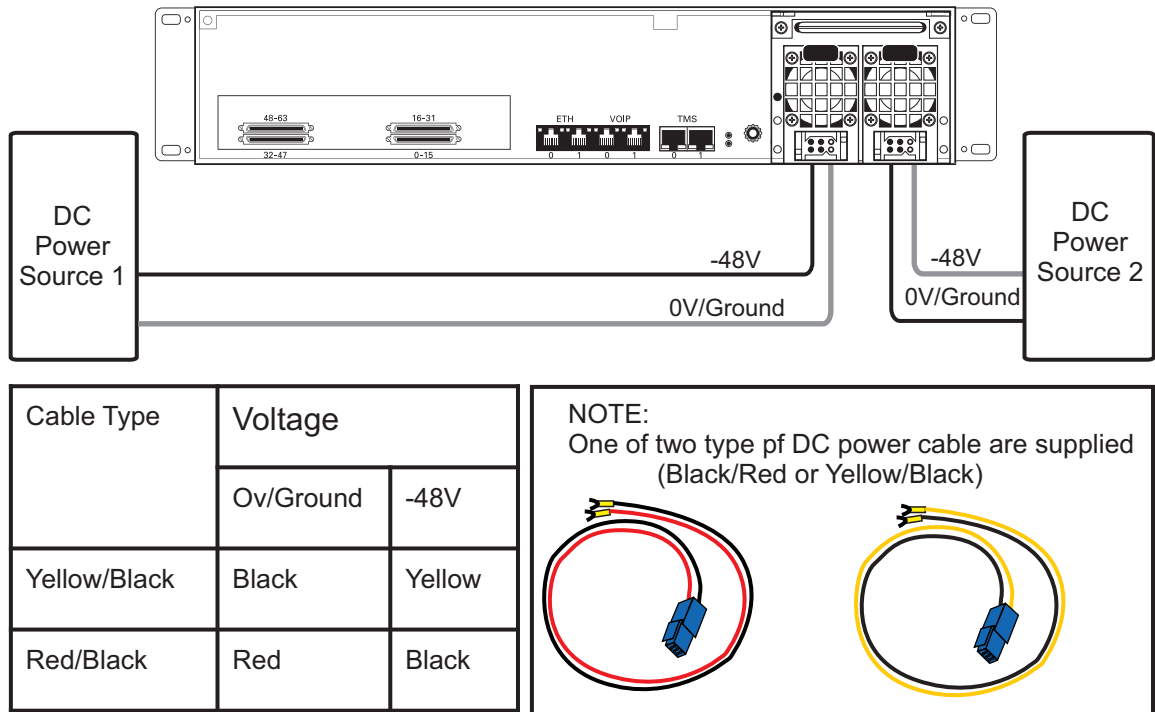

Figure 2.31 DC Power Connection
1. Connect one DC cable, supplied with the 7800 Telecom Unit, as shown in figure 2.31 on page 40, to the DC outlet at the rear of the 7800 Telecom Unit.
Note Two types of cable with different coloring are available. Refer to figure 2.31 on page 40 for the appropriate wiring information.